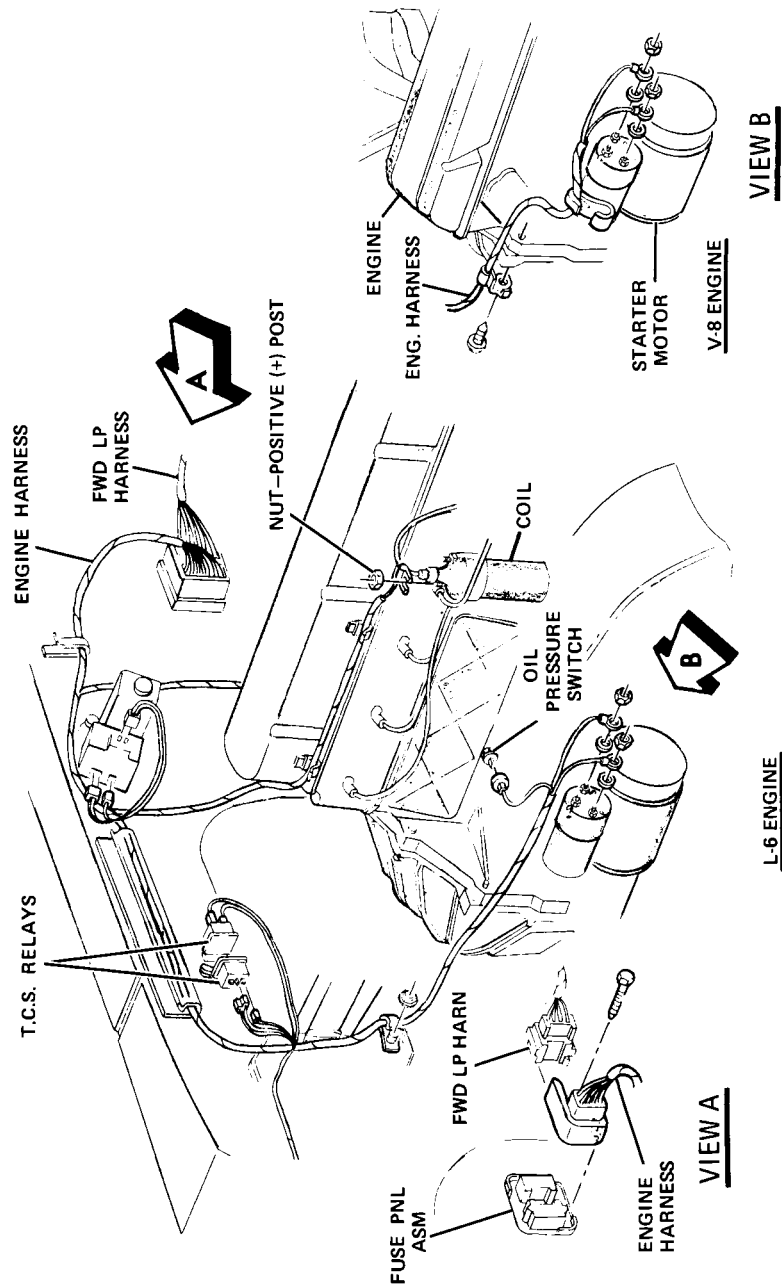

Fig. 12-60 X Series Engine Starter Wire Harness Installation
- b. Place transit Fig. 12-60 target on floor at center of rear wheel and place transit at center of front wheel on same side so target is visible in transit viewing port at top (Fig. 12-71).